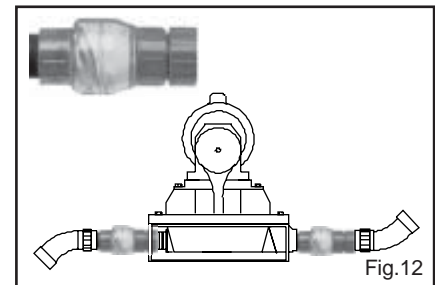

Fig.12
- **FLAPPER CHECK VALVES AND SOLIDS** - Solids trapped under the check valves will prevent self priming. This is likely to occur when the pump is used in sewage or sump pump out applications . Flushing with water will generally clear out the solid matter. Installing secondary clear flapper check valves right at the inlet and discharge will improve the dry suction start performance of the pump and make clearing the valves easy. Order Edson Clear Check Valves 269CL-200 (2") or 269CL-150 (1.5"). See Fig.12